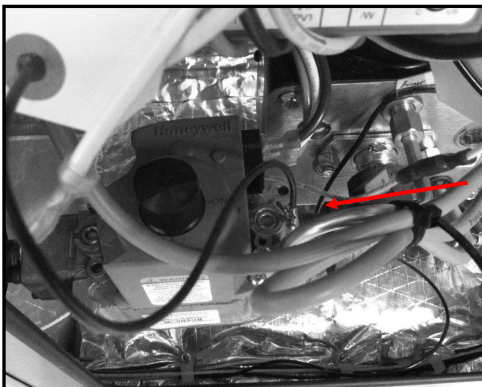
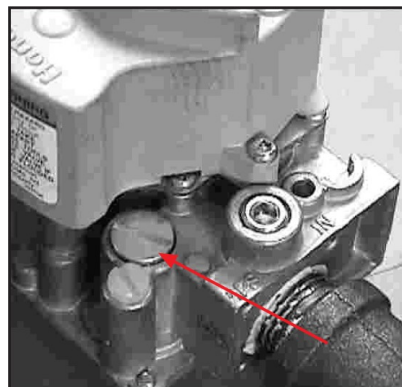
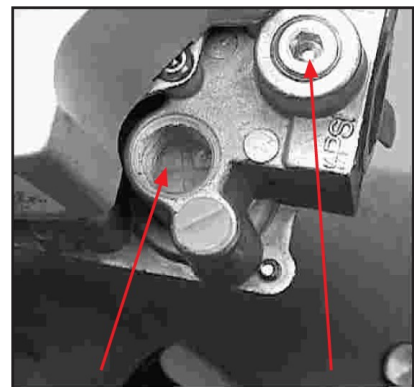

Figure 13: Manifold Pressure Tap
Figure 14: PRV Cap Screw
Figure 15: PRV Adjusting Screw,
11. Connect the manometer to the outlet manifold pressure tap (figure 13) and check the manifold pressure. The burner will have to be started to see a reading. The manifold pressure must be within the limits stated on the gas pressure label. If it is not, remove the PRV cap screw (figure 14) and adjust the pressure with the PRV adjusting screw (figure 15). Turning the screw clockwise increases pressure, turning it counter-clockwise decreases pressure.